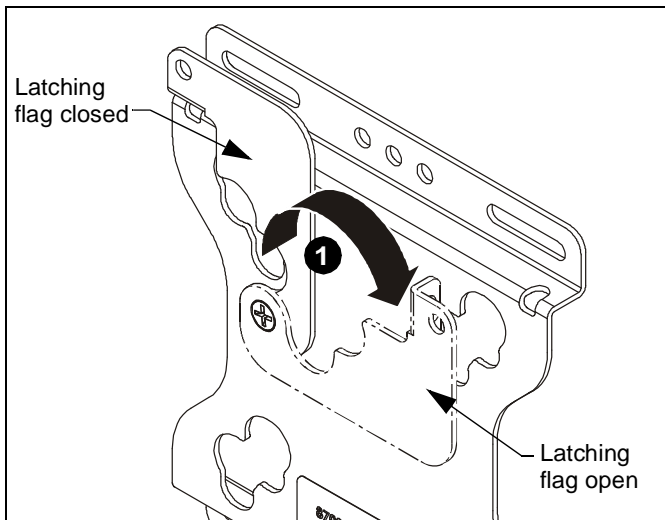

Figure 5
1. Open latching flag by rotating flag clockwise on FSR (A). (See Figure 5)